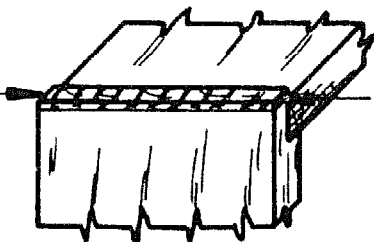

Fig. 6
- Clean up the inside faces with a smoothing plane (Fig. 6).